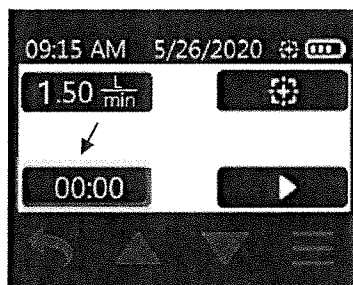

Figure 33. Time Button
3. Touch Time button (00:00) in Flow Menu to set sample duration (Figure 33).